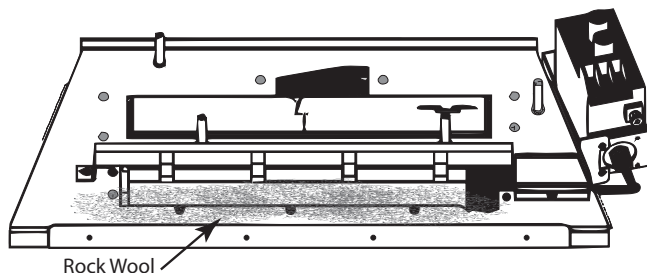

Figure 6.1 - Installing Rock Wool
1. Before installing logs, place rock wool in front of the grate. Loosely apply nickel size pieces to allow the gas to flow through for proper burn and not to be obstructed. Failure to do so would cause a higher level of CARBON MONOXIDE. See Figure 6.1.